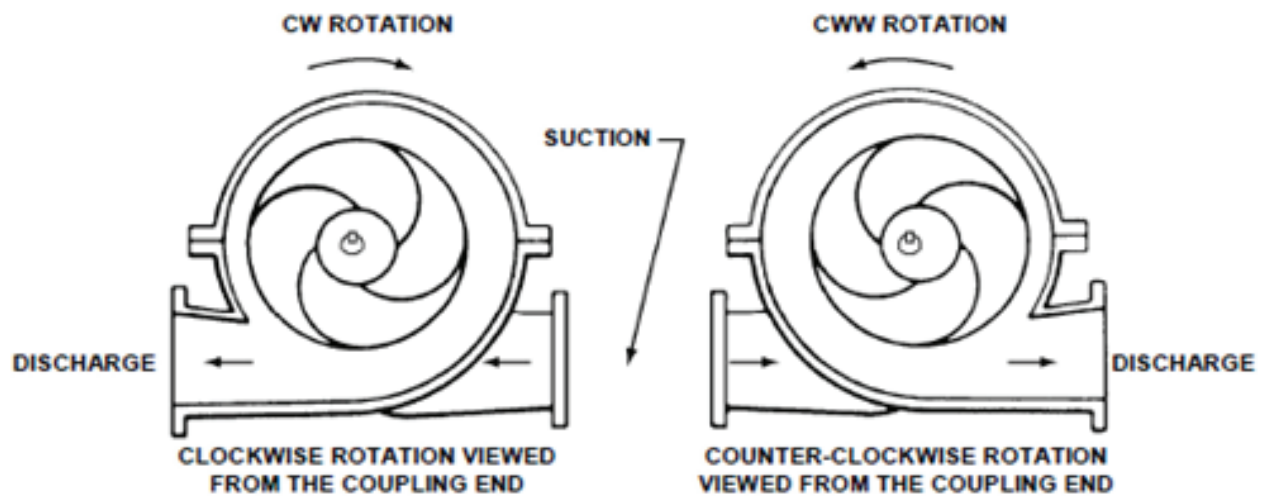

Figure 11 - Correct Relationship of Impeller and Casing
19.6 Changing Rotation (See Figure 11)